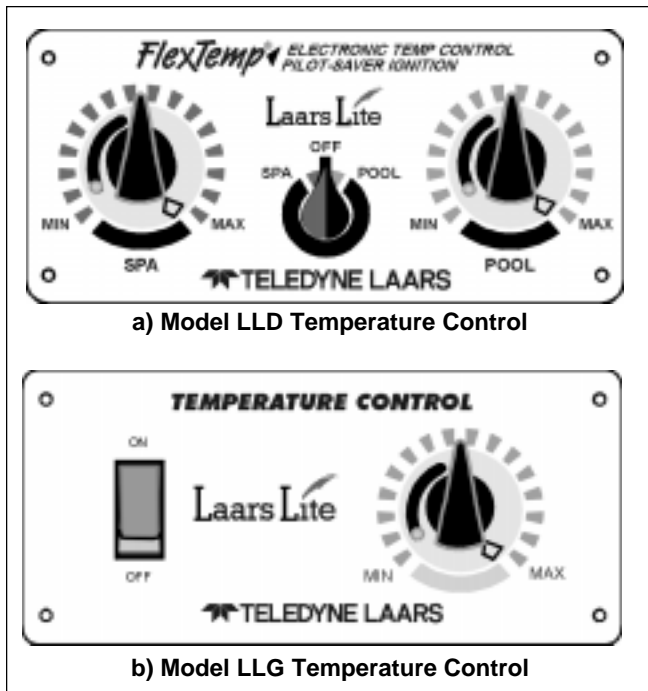

Figure 18. Temperature controls.
5. Use a 7/32 inch (5.55 mm) Allen wrench to turn the adjustment screw very slowly clockwise until the heater goes off (see Figure 18).
The automatic flow control valve maintains the proper flow through the heater at rates up to approximately 125 Gallons Per Minute (GPM) (474 liters per minute [LPM]). If the system filter-flow rate is higher than approximately 125 GPM (474 LPM), install a manual bypass valve (see Figure 18), then perform a temperature rise test (see Section 2G-8) and adjust the flow with the bypass valve until the proper temperature rise is obtained.